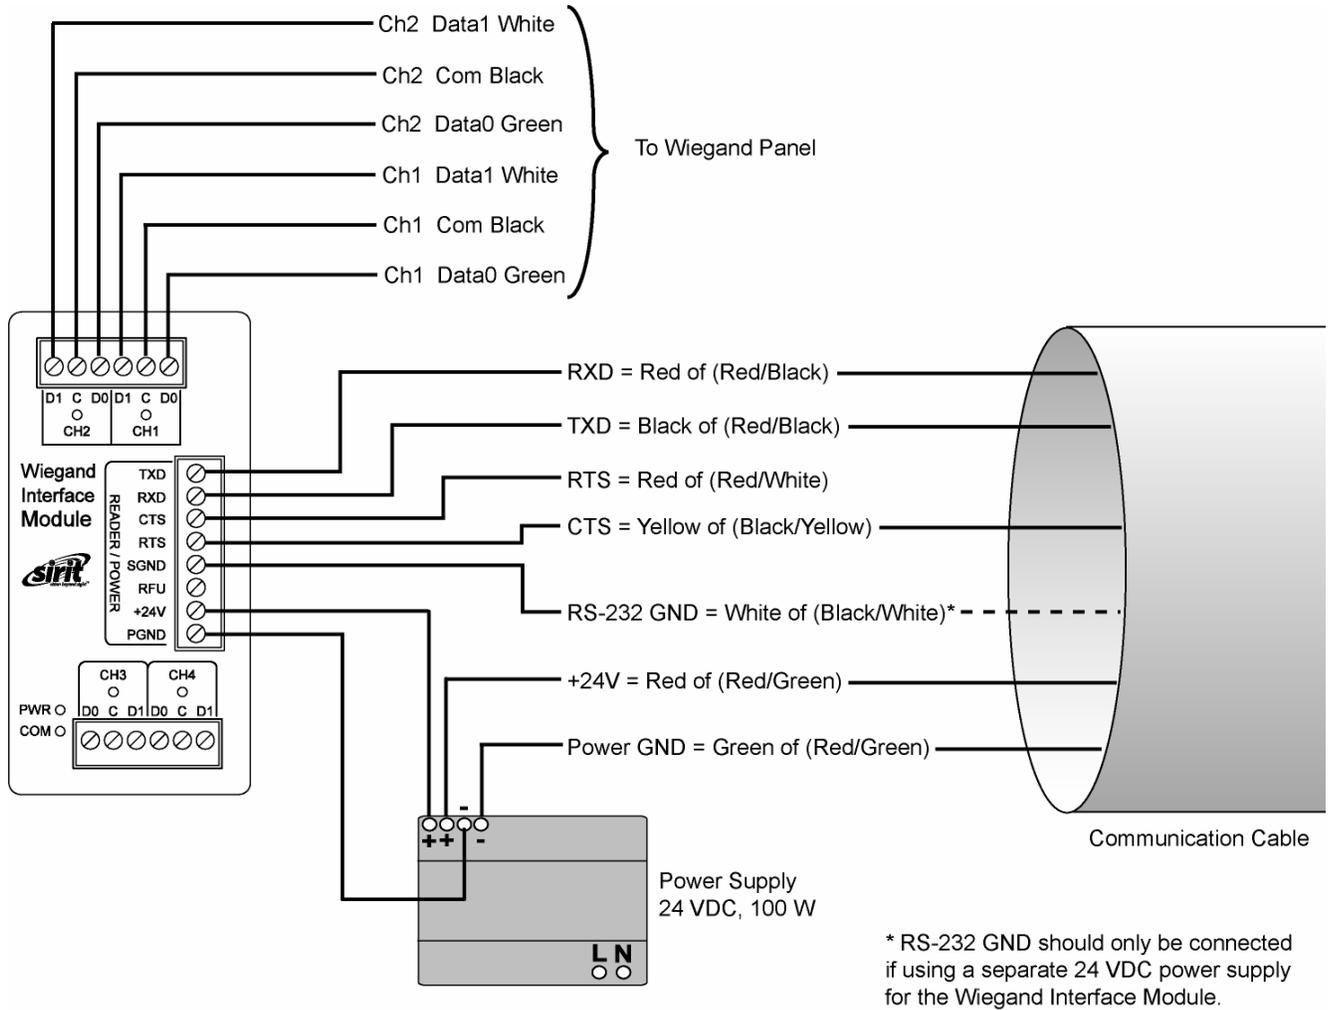

Figure 9 Wiegand Interface Module Electrical Connections
Refer to Figure 9 for actual Wiegand Module power and RS-232 wiring.
- 3 Refer to Figure 9 for the standard Wiegand color code as defined in the AC-01 Wiegand specification.